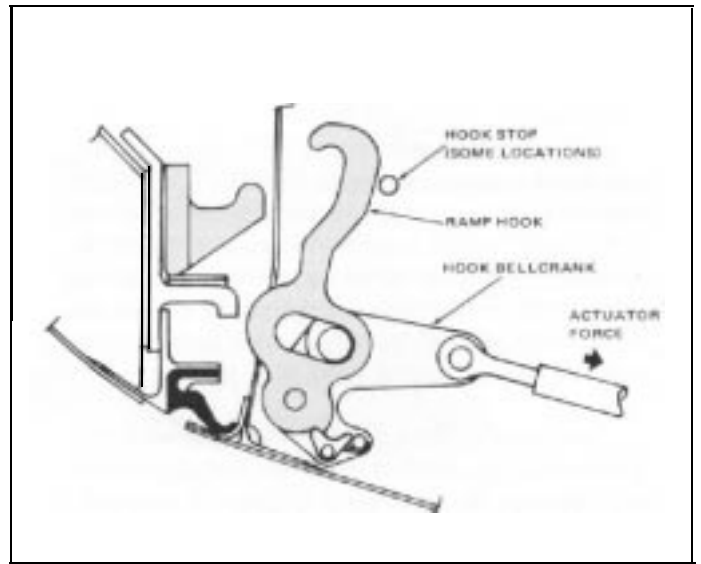

Figure 10. Ramp hook fully retracted position.
- Verify that ramp hooks are in the unlocked position. They should be retracted and in the ramp structure (see Figure 10).